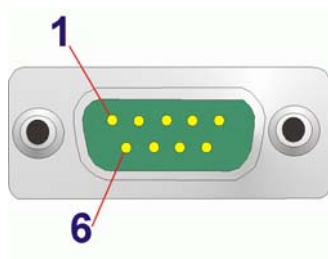

Figure 3-29: Serial Port Pinout Locations
- CN Pinouts:** See **Table 3-30** and **Figure 3-29**